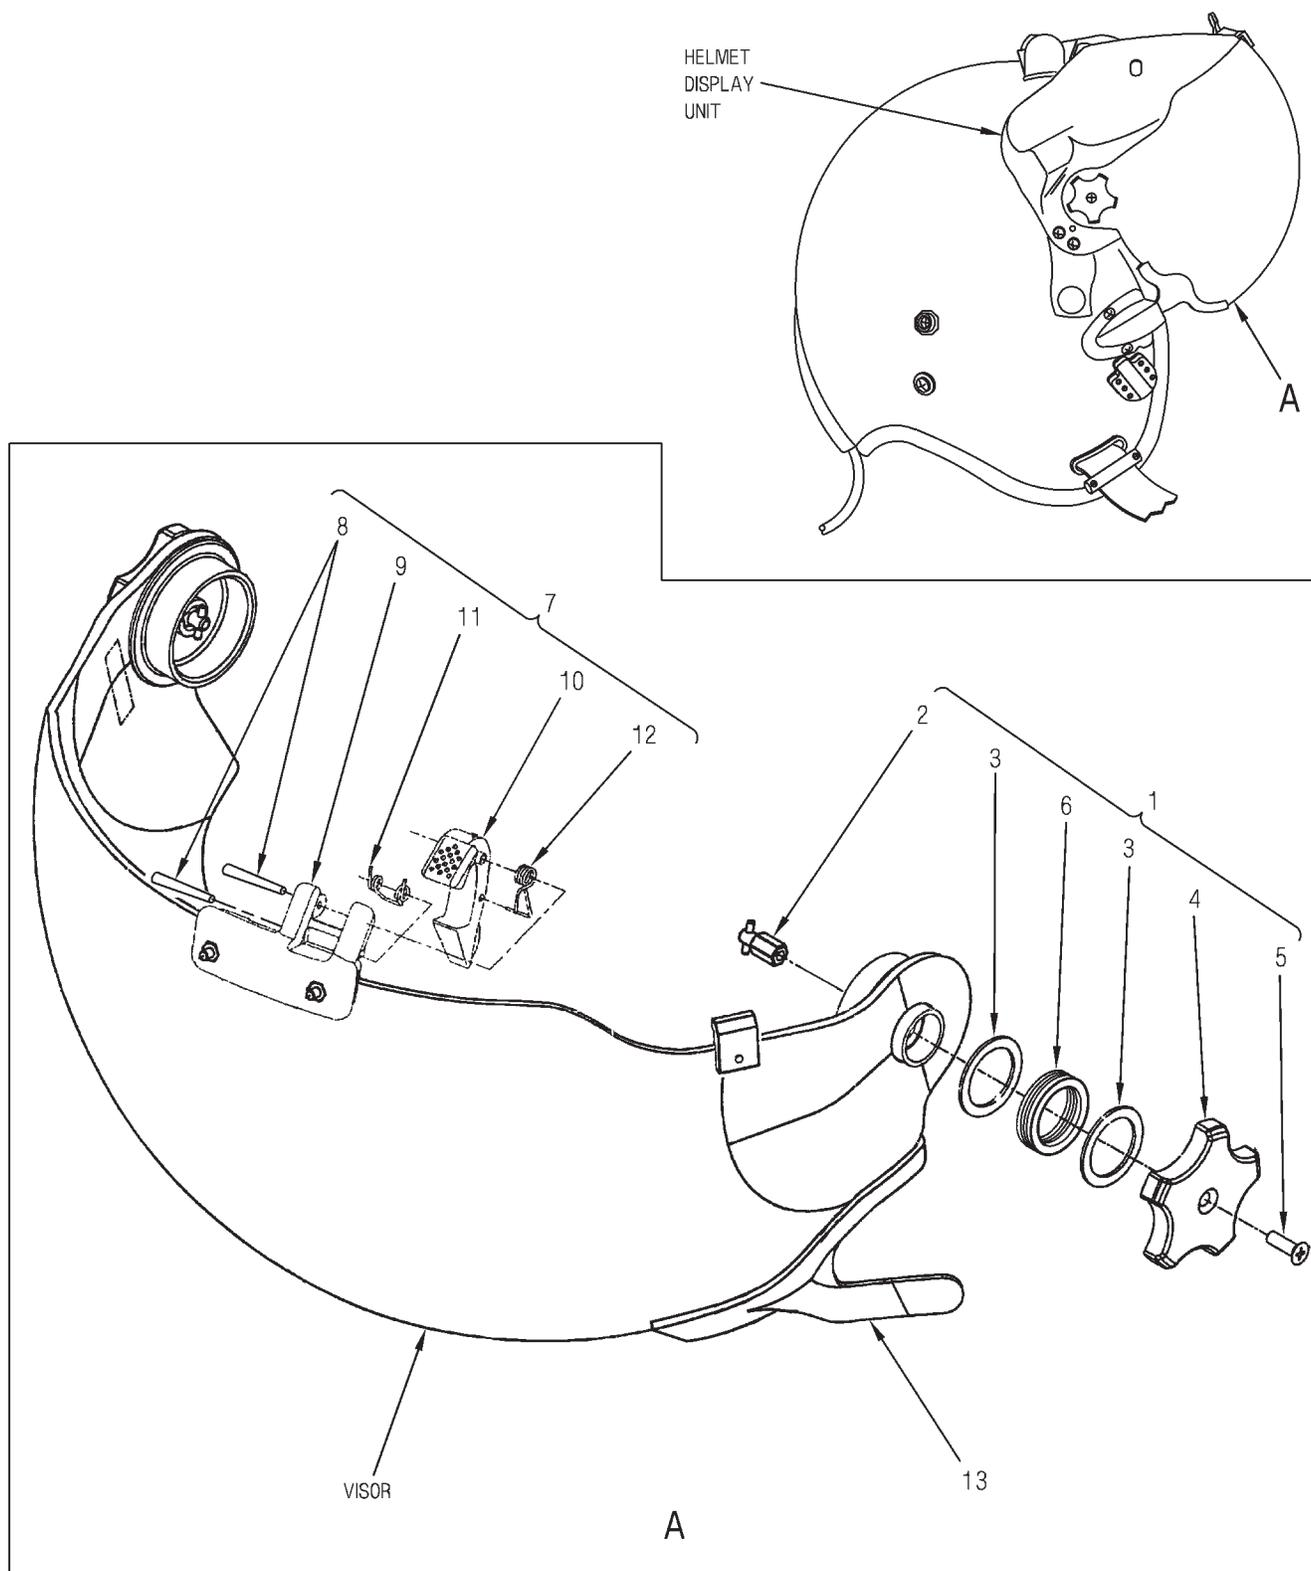

Figure 1. Visor Assembly, Part Numbers 620530-01-00, 620530-03-03 and 620530-01-05 (Sheet 1 of 2)
a. Pull visor knobs (4, figure 1) apart from each other by 1/2 inch.
b. Position visor knobs (4) over visor bushing receivers on display unit.
c. Press visor knobs (4) together until visor bushings are firmly seated.
d. Gently rotate both visor knobs (4) forward until visor knobs lock in position.
a. For illustrated parts breakdown of the visor assembly, refer to figure 1.